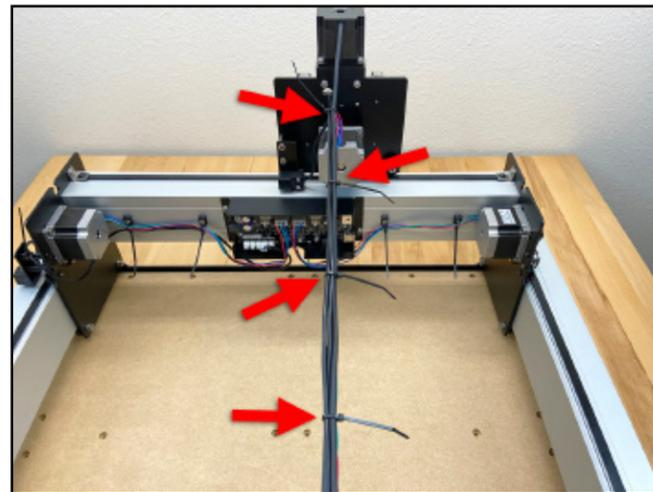

Figure 7-13
3. Use three (3) more cable ties, spaced about 4.5 inches apart, to keep the cables bundled together neatly in a long rope. See **Figure 7-13**.